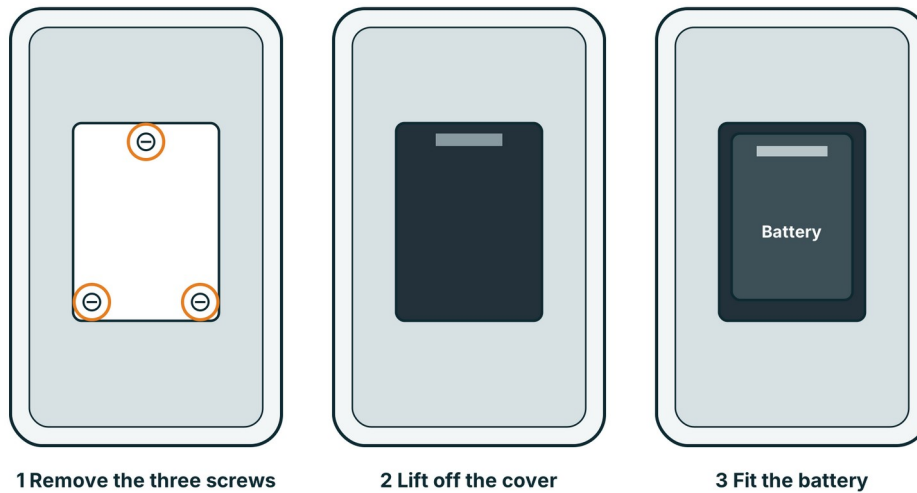

Figure 1 Fitting the battery, at the rear
1. Remove the three screws in the battery cover with a screwdriver (Figure 1, 1).
2. Lift off the battery cover (2).
3. Put the battery into the battery slot (3).